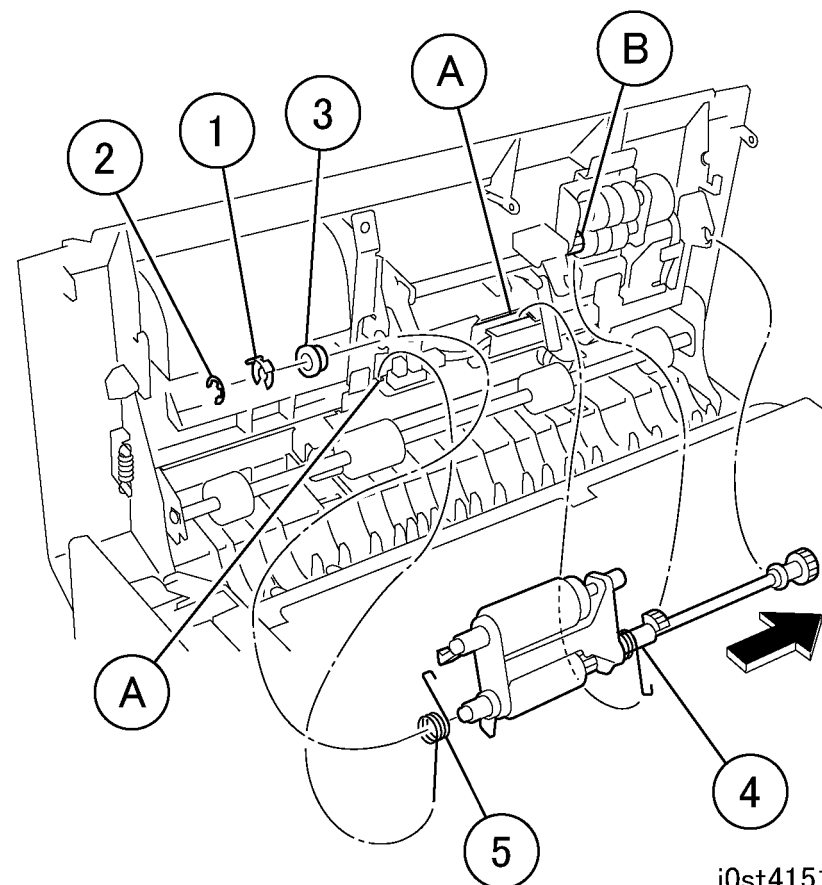

Figure 3 Removing the Nudger/Feed Roll Assembly
4. Remove the Nudger/Feed Roll Assembly (Figure 3).